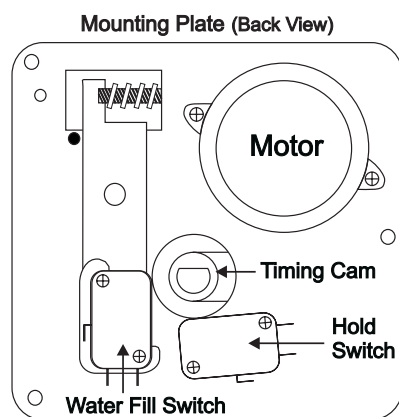

Figure F2
Timing Switches (See Figure F2)
3. **Shut-Off Switch** - Stops Ice Maker operation when the Storage Container is full of Ice. The switch is opened after the Sensing Arm is raised to its most upright position. The switch is mounted to the top right wall of the Ice Maker Support. (Not shown in Figure F2)